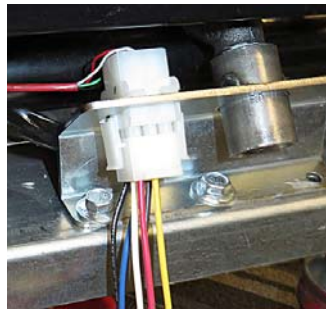

Figure 72
70. Attach the 1085398 9-pin male connector to the female connector (see Figure 72).
84. Use the wiring diagram on the back page for reference when attaching any wiring from an external bulk system. Connect the wiring to the harness next to the DISPOSE connector, on the rear of the fryer (see Figure 72).
86. Once fryer has powered up, wait one (1) additional minute with the controller OFF and press the HOME button.